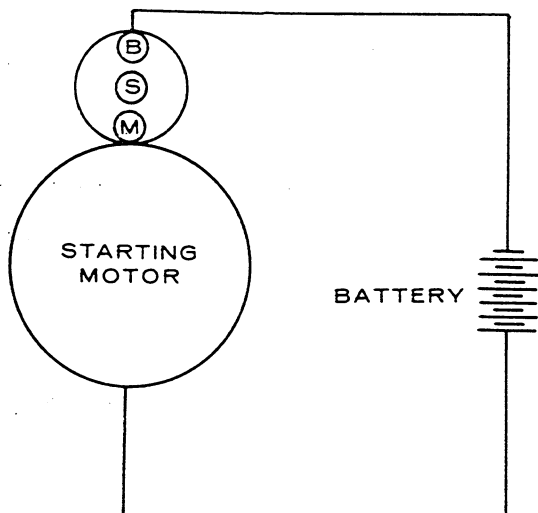
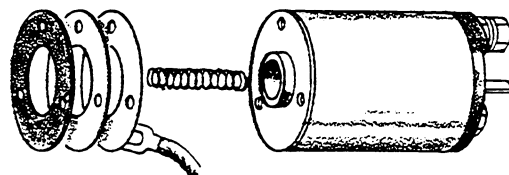

FIGURE 49. BATTERY CONNECTIONS
FIGURE 50. ADJUSTING PINION CLEARANCE
2. **Adjusting Pinion Clearance.** Connect the battery to the starting motor as shown in Figure 49. This will allow the pinion of the starting motor to slide and stop. In this state, measure the clearance between the end of the pinion and pinion stopper when the pinion is pushed lightly toward the commutator end. Clearance should be .02-inch (0.51 mm) to .06-inch (1.52 mm). Adjust for proper clearance by removing the magnetic switch attaching screws and select proper thickness of the fiber packings shown in Figure 50.